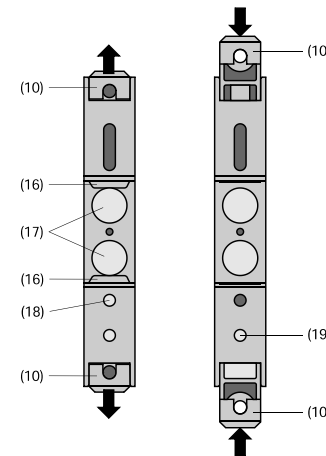

Fig. 8. Rear of device.
The wire pressing the latch (18) in the base of the device (Fig. 8, left), pull out the transmitter securing brackets (10).
To return the brackets to their original positions, the latch (19) in the base of the device has to be depressed before applying pressure to the securing brackets (10) (see Fig. 8, right).